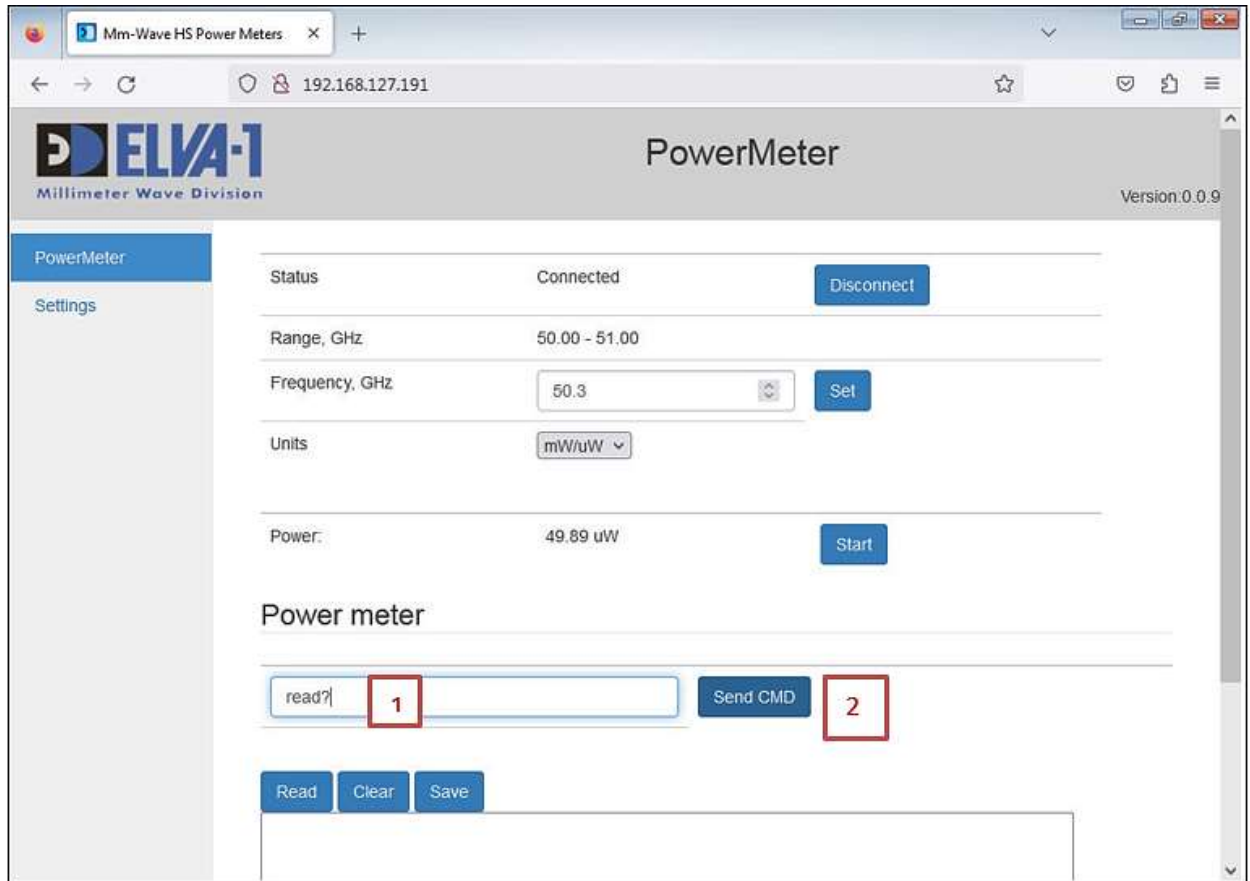

Fig.5. Using command line (CMD)
- You can send a command from the User Manual Appendix list without requiring a line ending symbol. After entering the command in the 'cmd' field [marker #1, Fig. 5], click the 'Send CMD' button [marker #2, Fig. 5].